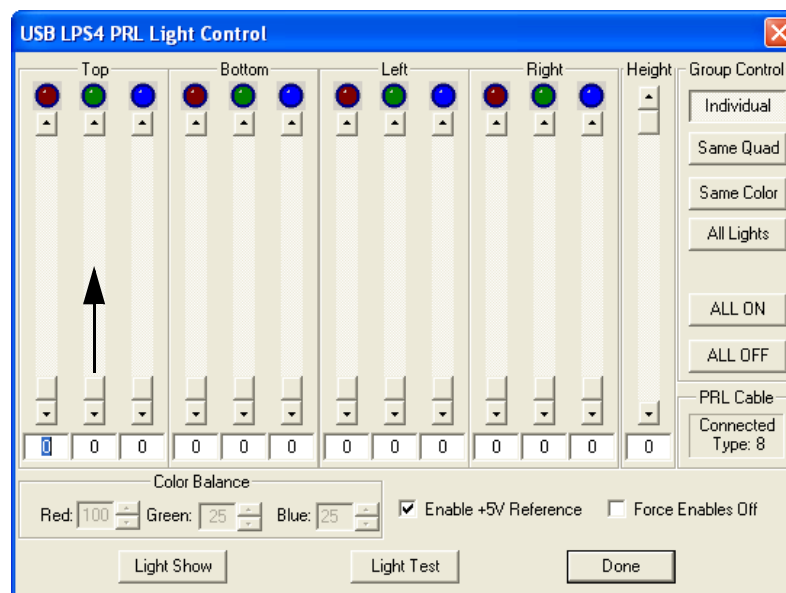

Figure 8-24 Light Control Window
14. Click **Individual** and turn on (about half way) one of the LED arrays (any color) in the **Top** quadrant (see Figure 8-24).